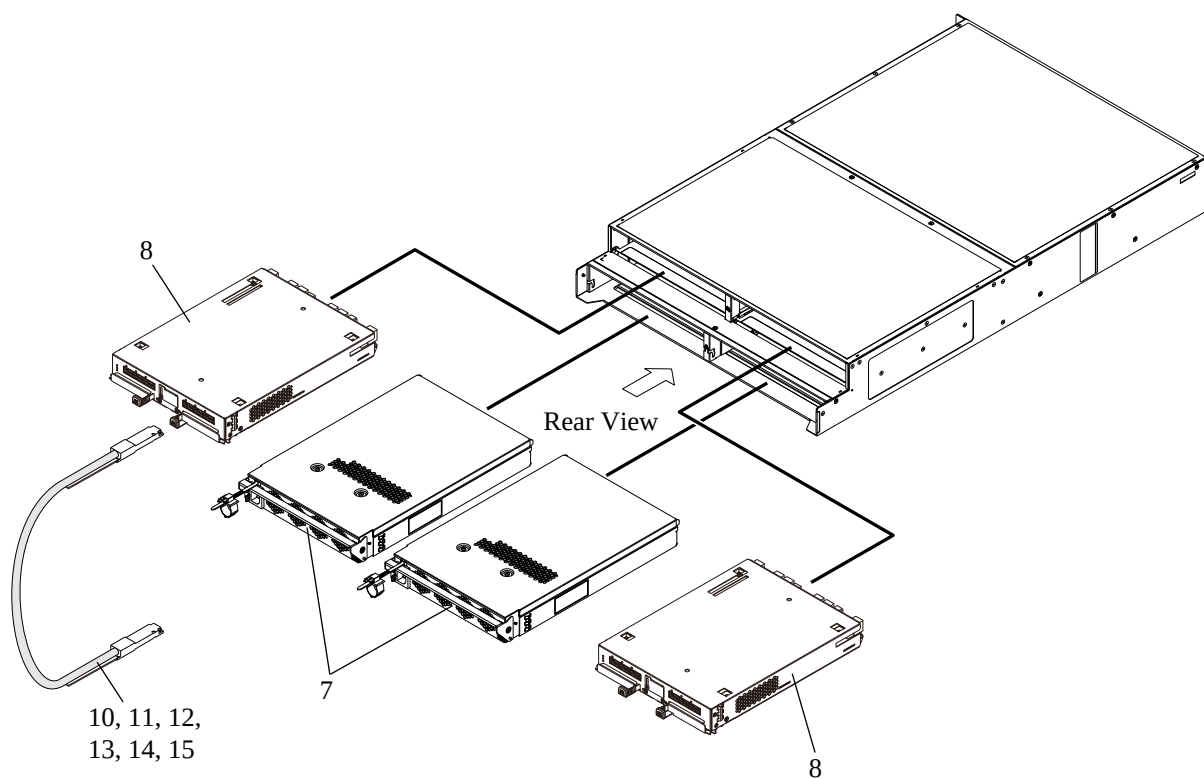

Fig. 2-4 FBX (2/2)
(4) FBX**Fig. 2-4 FBX (1/2)**
PARTS02-120**PARTS LIST 2-4 (Parts listed below are shown in Fig. 2-4.)**